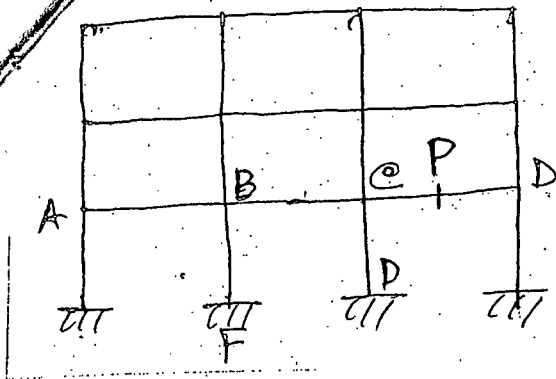
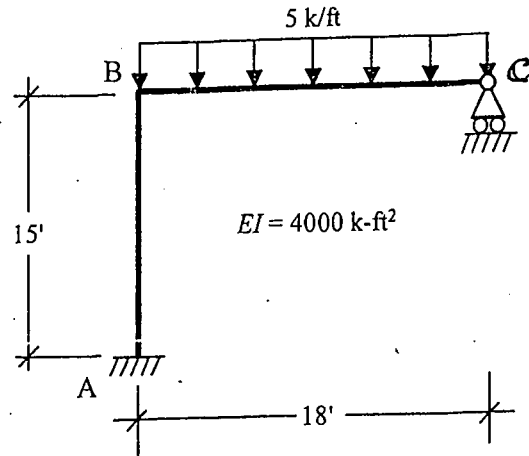

Fig. 13
Fig. 14
7. (a) For the frame in Fig. 13, draw qualitative influence lines for
- (i) Maximum negative bending moment at C of the beam BC, (8)
- (b) Analyze the frame in Fig. 14 using stiffness method and determine all support reactions and the amount of sway. (27)